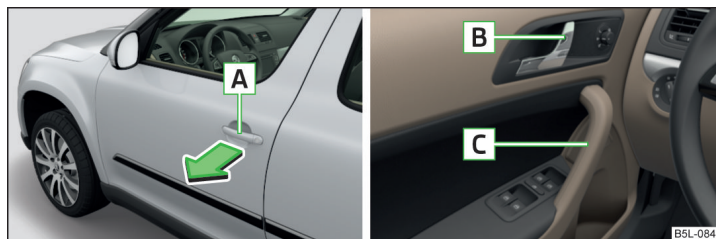

Fig. 33 Door handle/door opening lever:
▶ To open from the outside, unlock the vehicle and pull the door handle **A** in the direction of arrow » Fig. 33. ▶